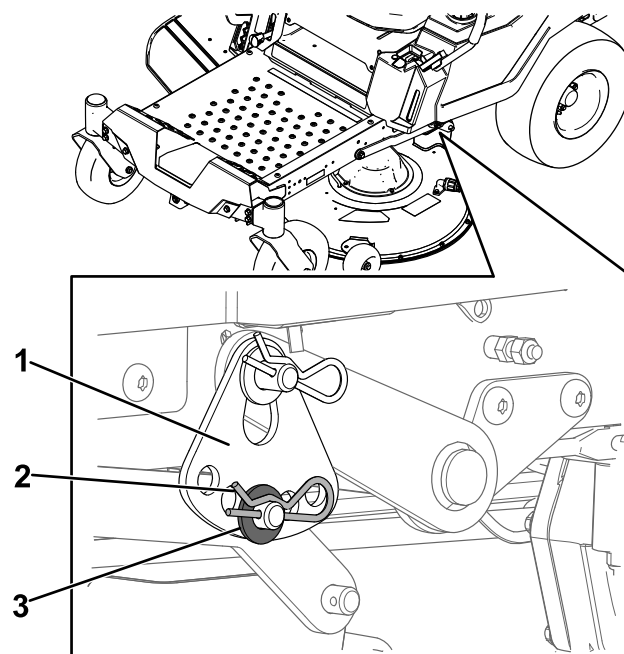

Figure 64
6. Remove the hairpin cotter and washer from the lower lift-arm pin (Figure 64).